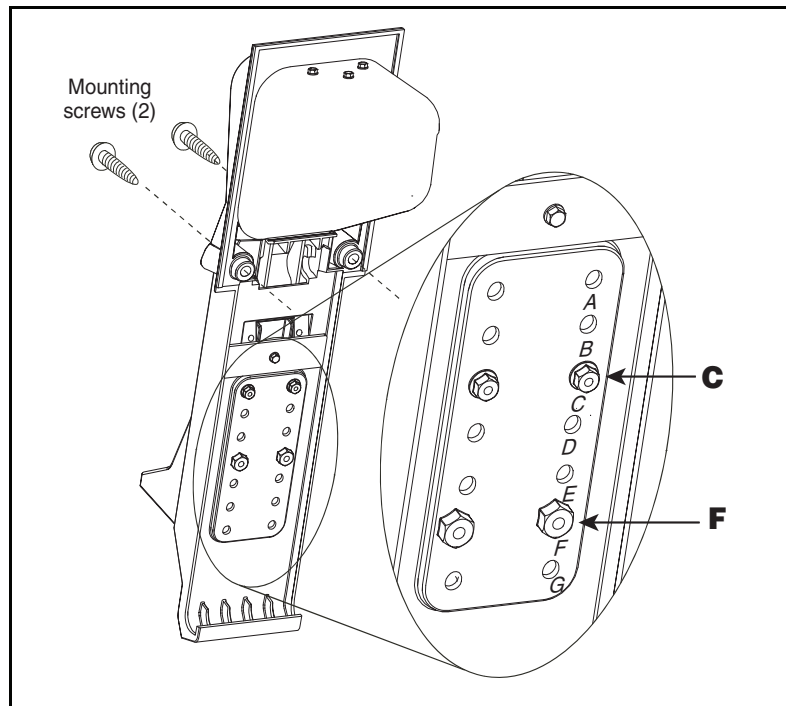

Figure 4. Gilbarco Encore Hook Repositioning
1. Loosen two nozzle boot mounting screws. (See Figure 4) using 1/4" square tip driver. Note: Save nozzle boot mounting screws for use later.
2. See Figure 4 to identify existing nozzle hook retaining screw and nut locations. Identifying marks are located under right hand row of indented hole locations. Standard nozzle hook locations are positions A & D.
1. The hook should be lowered two (2) positions until the upper screws are in position "C" and the lower bolts are in position "F". See Figure 4 to identify nozzle hook retaining screws and nuts locations. Identifying marks are located under right hand row of indented hole locations.